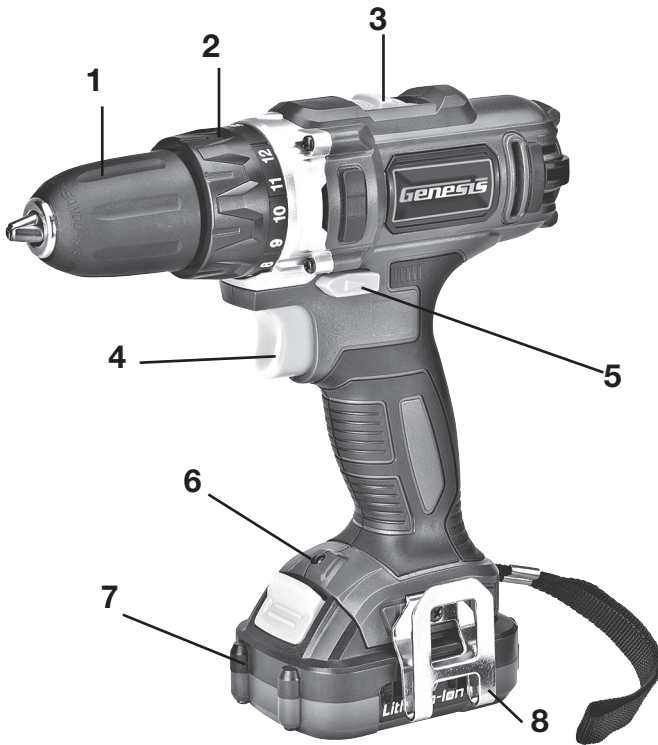

FIG 1
- Turn the drill on by depressing the trigger switch (4-FIG 1).
- Use the Reversing Switch (5-FIG 1) to change the direction of rotation of the drill.
Your tool has a built-in LED work light (6-FIG 1) to illuminate the work area. When you turn on the tool, the work light will automatically turn on.